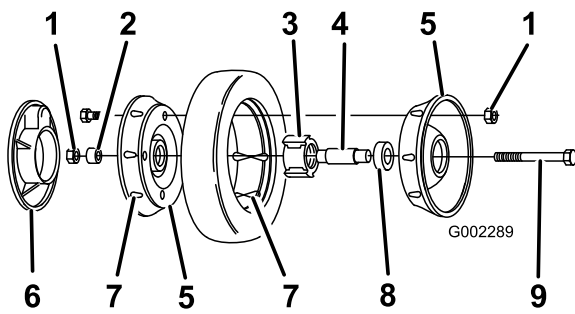

Figure 26
3. Remove the bolt, the wheel spacer, and the locknut mounting the wheel to the pivot arm (Figure 26).
4. Separate the wheel halves from the tire by removing 4 bolts and 4 locknuts (Figure 26).
Note: If you remove the bearings from the bearing/hub assembly, remove them by pressing on the bearing spacer (Figure 26).
1. Position the tire onto one wheel half, aligning the lugs on each (Figure 26).
2. Place the bearing/hub assembly into the center hole of the wheel half. Ensure that the legs of the hub are positioned over the flange of the hole (Figure 26).
3. Place the other wheel half onto the bearing/hub assembly, aligning the wheel and the tire lugs and the mounting holes (Figure 26).
4. Using 2 fully threaded screws or bolts (1/4-20 x 1.50 inch) and non-locking nuts, loosely secure the wheel halves together. Mount the screws or bolts in the opposing holes (Figure 26).
5. Check the alignment of all parts and tighten the screws, alternating from side to side for a uniform fit, until the wheel halves are drawn together (Figure 26).
6. Install the 2 bolts and 2 locknuts previously removed in the remaining holes in the wheel halves and tighten. Remove the 2 long screws or bolts and replace them with 2 bolts and 2 locknuts (Figure 26).
7. Install the wheel to the pivot arm with the bolts, a spacer, and a locknut. Ensure that the spacer is positioned between the wheel hub and the pivot arm (Figure 26).